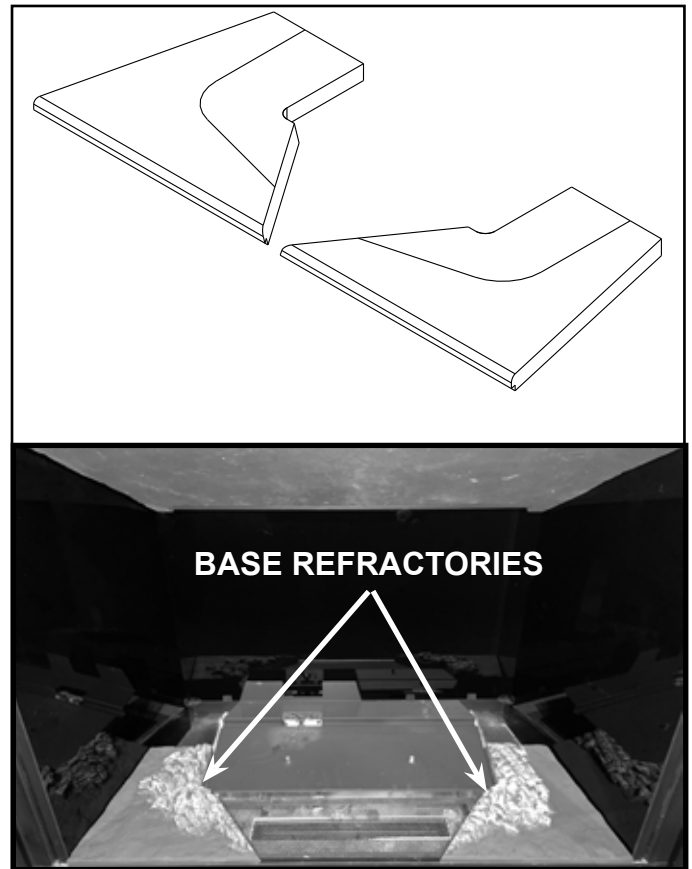

Figure 13 Type 2 Base Refractory Installed (Two Piece Model)
14. Set new base refractory pieces in place as shown Figure 13.